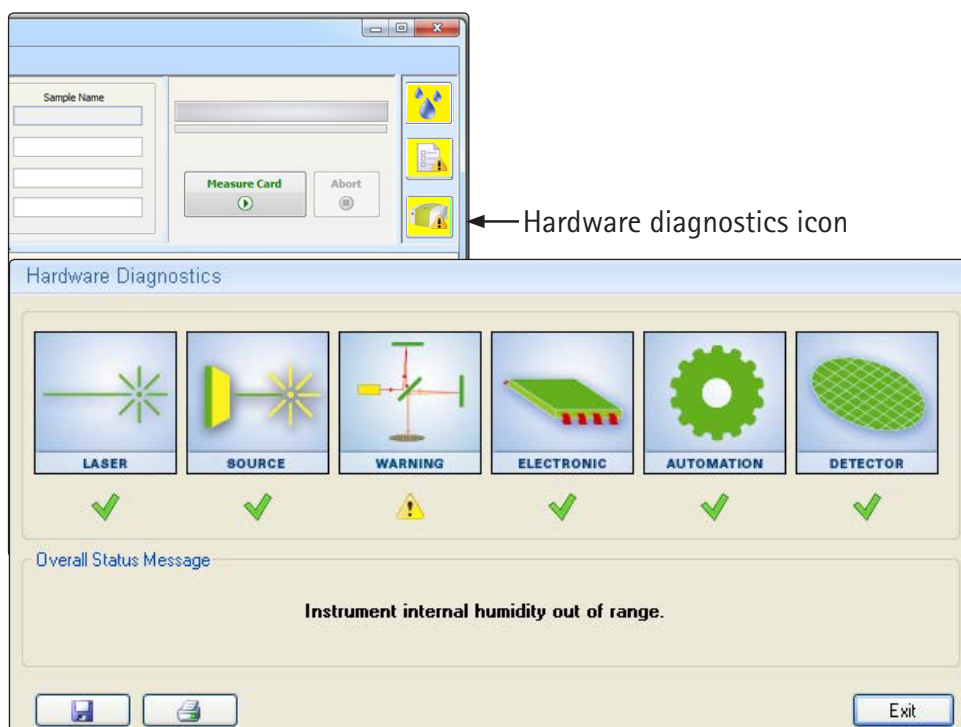

Figure 42. Instrument status
3. Click on the hardware diagnostics icon to open the hardware diagnostics dialog (Figure 42).